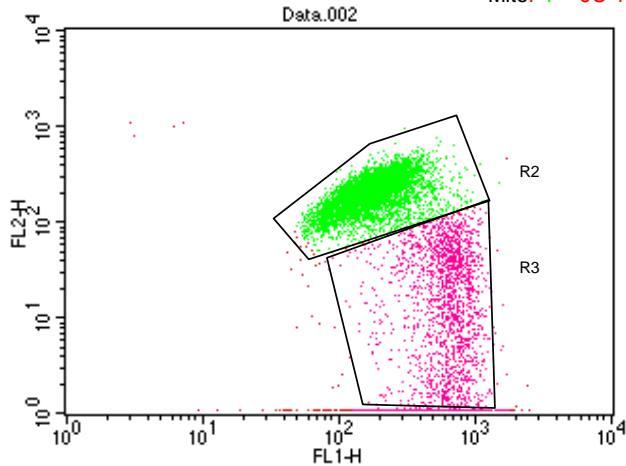

Figure 2: Positive cell control, Log FL1 (X-axis) and log FL2 (Y-axis) R2 = 60.93% R3 = 38.13%.
6. Using the same PMT settings established for the non-induced negative control sample in Step 3, run the induced positive sample. If a change in mitochondrial $\Delta\Psi_m$ has occurred, an increase in the number of cells falling in R3 is observed as shown in Figure 2.